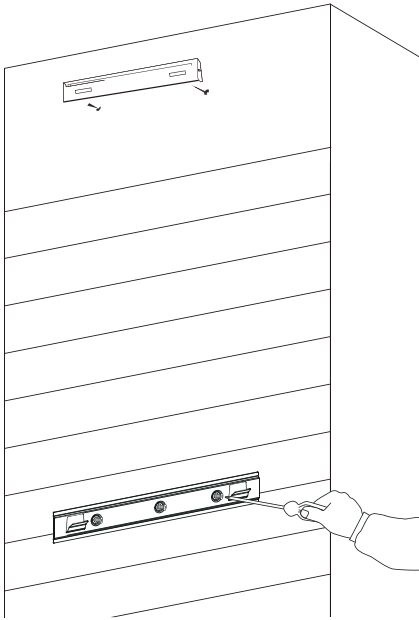
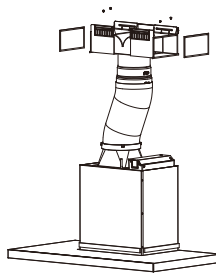

Fig7
Fig. 9
3. Install the flue cover mounting and wall brackets with screws to the wall as marked (Fig.7). Please mounted recirculating T pieces together with flue cover bracket if recirculating mode is used. (Fig.9)
**5a. Recirculating mode (Fig. 9).**
According to the flue cover dimension, fix the T-piece by 4 screws Supplied. Adhesive two sponges to the outlet of T-piece as shown (Fig.9)